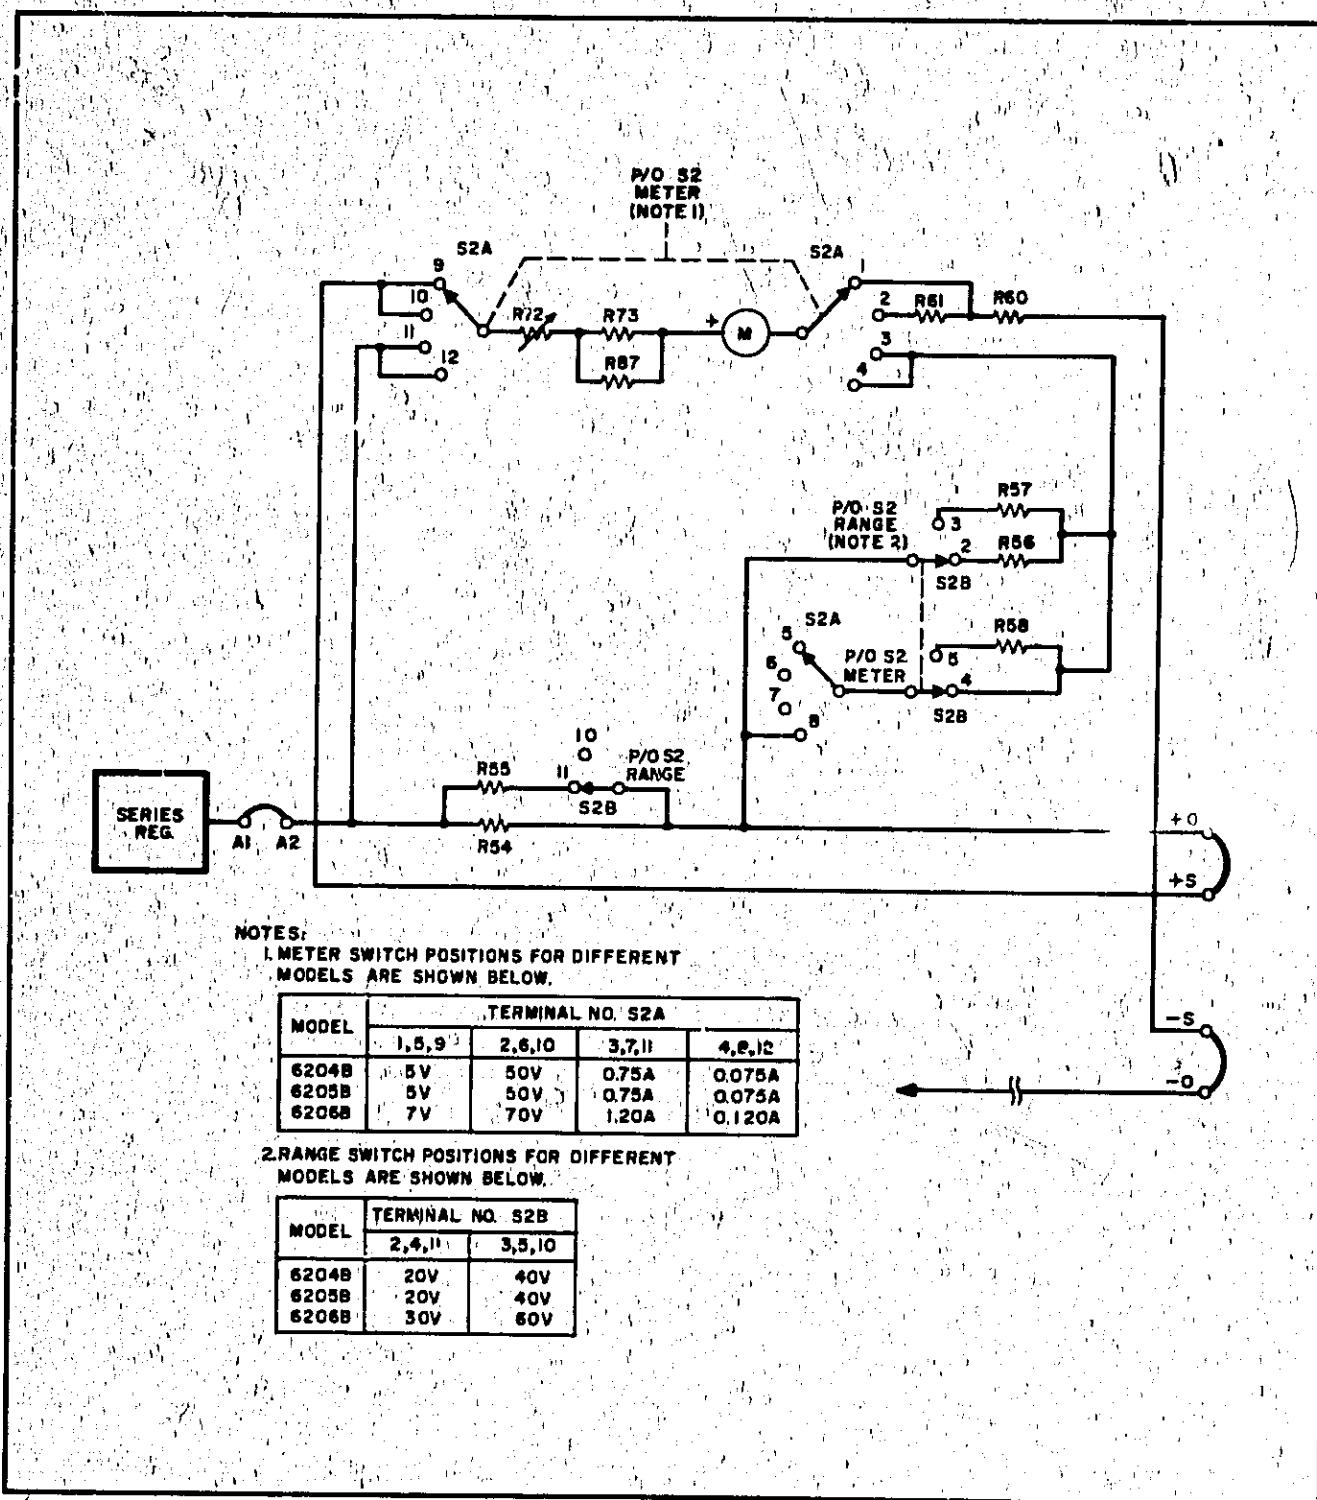

Figure 4-2. Multiple Range Meter Circuit, Simplified Schematic
#### **4-29 METER CIRCUIT (Figure 4-2)**
**4-32** When measuring current, the meter circuit is connected across the current sampling resistor network as shown on Figure 4-2 and indicates the output current that flows through the network. The RANGE section S2B connects the appropriate resistance in series with the meter so that its maximum deflection range is full-scale in the high current (low voltage) operating mode and half-scale in the low current (high voltage) operating mode. This circuit obviates the need for a dual current scale which would be necessary since the voltages dropped across the current sampling network in both operating modes are equal for proportional currents.